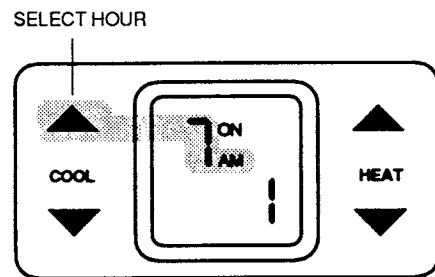

Fig. 13 — Select Hour For ON Time
4. Press the Select Hour button until the time for the beginning of the comfort period is displayed. See Fig. 13.